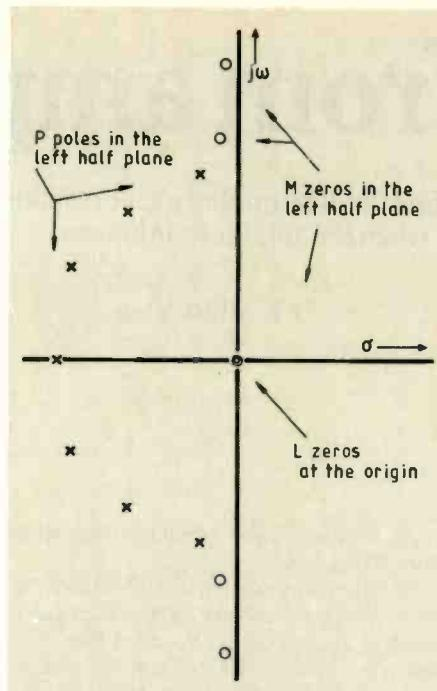

Fig.3. General diagram of input characteristic of a network, $F(s)$, showing typical grouping of poles and zeros in the s -plane.
- Figure 3 gives a general schematic of $f(s)$.